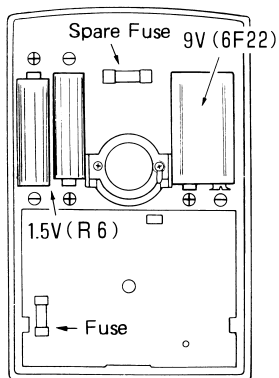

Fig. 16
2. When the fuse is blown, the tester fails to work. Replace it with the spare fuse (5mm dia \times 20mm, 500mA/250V). Refer to Fig. 16 for its position.